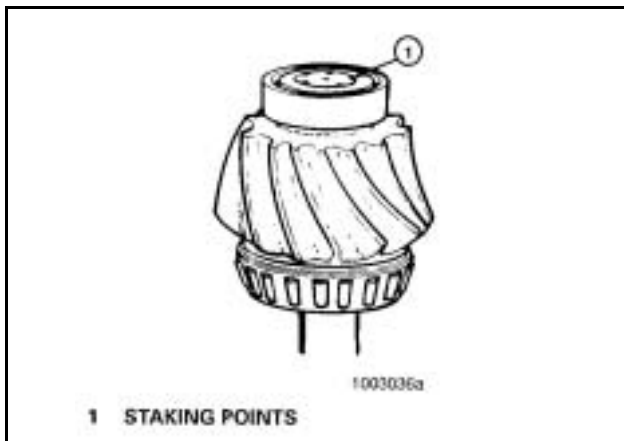

Figure 57a
- Stake the end of drive pinion at a minimum of five points. **Figure 57a.**
When using a staking tool and press (**Figure 57a**), calculate the force required on the tool as follows.